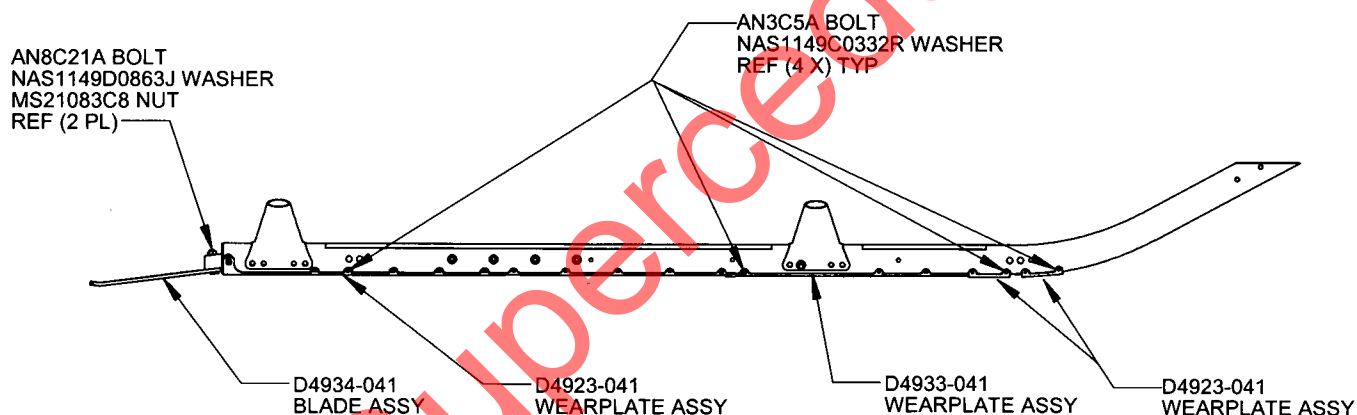

FIGURE 2: D350-636-111 WEARPLATE INSTALLATION
- 4.3 Refer to Figure 2 on sheet 3 of this service instruction. Install the D4934-041 Blade Assy. Torque the AN8C21A bolts to 480-690 in-lbs (54.2-78.0 N-m).
- 4.4 Refer to Figure 2 on sheet 3. Install the D4923-041 Wearplate Assy and the D4933-041 Wearplate Assy as shown. Torque the AN3C5A bolts to 15-25 in-lbs (1.7-2.8 N-m).
NOTE: THE 2 x D4923-041 WEARPLATES CAN BE INSTALLED IN ANY 2 OF THE 3 LOCATIONS INDICATED IN FIGURE 2 ABOVE. A PARTIAL INSTALL OF THE COMPONENTS PROVIDED IN THE D350-636-111 KIT IS ACCEPTABLE AS LONG AS THE INSTALLATION IS THE SAME ON BOTH SKIDTUBES.